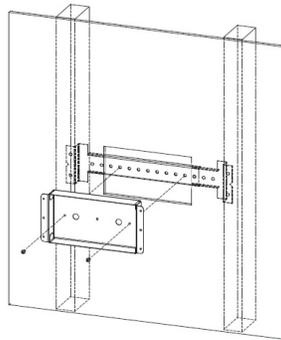

Figure 21
For new construction that has exposed wall studs, the BBWP-TOUCH7 can be mounted to the studs using a universal telescoping box bracket that must be purchased separately from one of several manufacturers that make them. Models will only work that mount between two studs as shown in Figure 21.
- E. After the drywall is cutout to fit the in-wall (flanged) back can, secure the back can to the universal telescoping box bracket by inserting two screws through the back can into the bracket as shown in Figure 21. Additional screws can be applied to the back can flange if needed. See page 6, steps 17, 18, and 19 to complete the mount of the BBWP-TOUCH7 into an in-wall (flanged) back can.